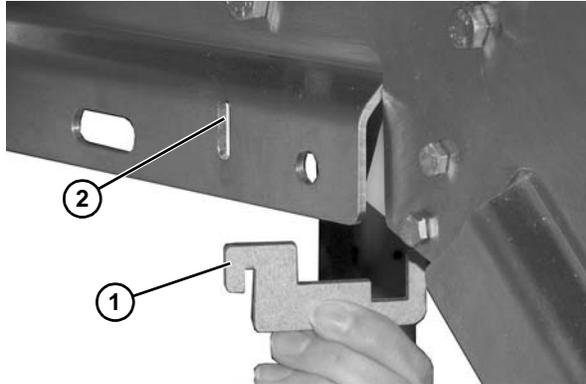

Figure 33
- Install belt return mounting bracket (**Figure 33, item 1**) into slotted frame hole (**Figure 33, item 2**).